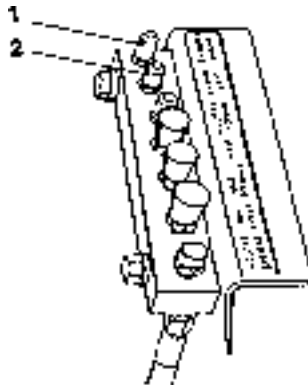

Fig. 3.2. Diagnostic Center – Tow and Pressure Check Ports
To avoid the possibility of power train damage, limit towing to a distance of 0.8 [km] at speeds less than 1.6 [km/h]. The brakes on this machine are spring applied automatically when the engine is stopped or the steering hydraulic system fails, and can only be released hydraulically. The diagnostic center (Fig. 3.2) has two check valves RB and LB for externally applying hydraulic pressure to the LH and RH brake spools to release them prior to towing per below specified procedure.
3. Pump sufficient grease into one of the valve (1 or 2 in Fig. 3.2.) to release the brakes. The amount of grease required depends on the amount of pressure dissipation in the system.